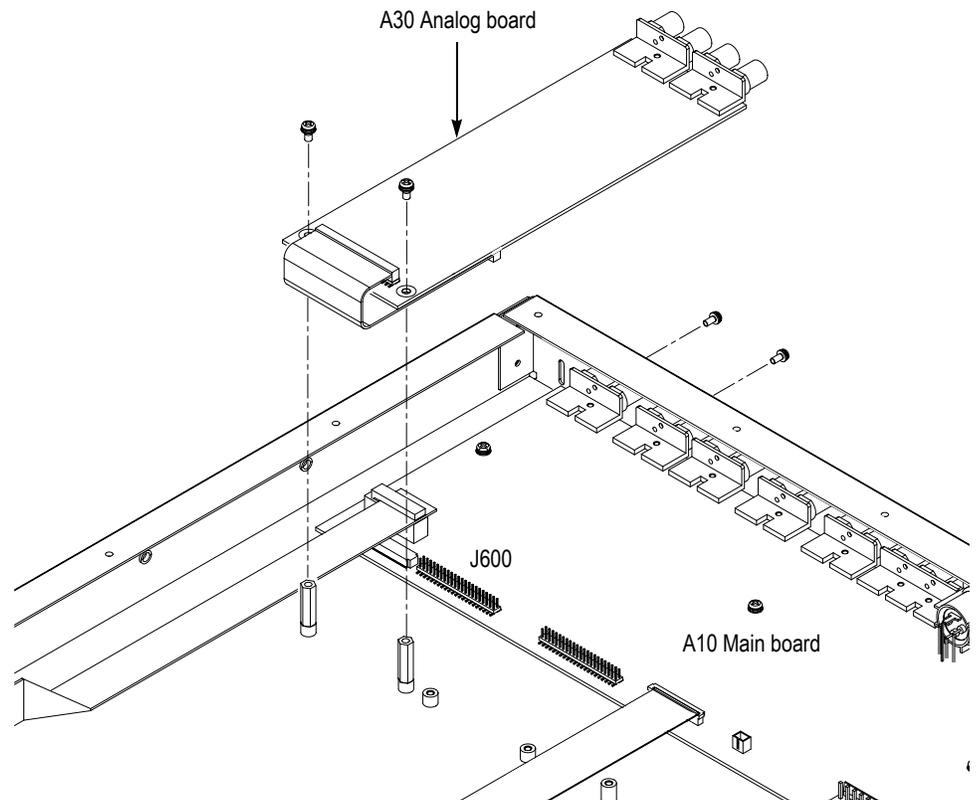

Figure 4: Removing the A30 Analog board
1. Use a screwdriver with #1 Phillips tip to remove the two screws securing the A30 Analog board to the rear of the chassis. See Figure 4.
2. Use a screwdriver with #2 Phillips tip to remove the two screws securing the A30 Analog board to the bottom of the chassis. See Figure 4.